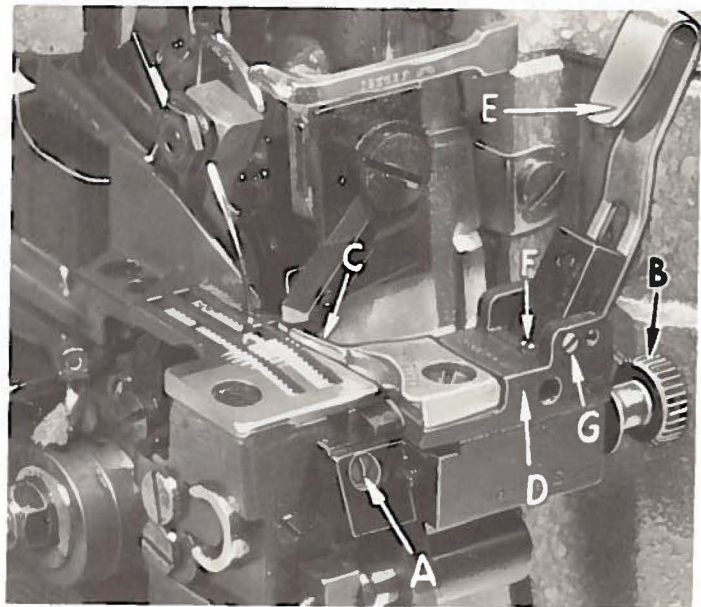

Fig. 15
Assemble the hemming guide support bracket onto the lower knife support bracket by means of screw (A, Fig. 15). With the knurled adjusting screw (B), set the edge guide (C) so that the left side of its tip is even with and parallel to the right side of the right feed slot in the throat plate.
When the edge guide tip is in this position, the front or leading edge should be slightly to the right of parallel. This adjustment can be made by positioning the stop screw located towards the front of the hinge block and edge guide support bracket (D, Fig. 15).
Under normal conditions, the edge guide is spring pressed to compensate for the differences in material thickness. For example, as in going over seams. The amount of movement and pressure applied to the edge guide tip is controlled by adjusting the screw which presses against the spring located in the hinge block and edge guide support bracket (D, Fig. 15). Removing this spring and turning the screw all the way out against the edge guide prevents movement of the edge guide.
Adjust the edge guide (C, Fig. 15) by turning the knurled adjusting screw (B) so that the stitches are located in the folded edge, yet do not show on the face of the fabric. Adjust the overhanging guide (E) so that the space between its guiding edge and the edge guide corresponds with the thickness of the material to be hemmed. Adjust the stop screw (F) for the overhanging guide so that the tip of the overhanging guide is located at the center of the edge guide vertically. If desired, the overhanging guide can be locked into position by tightening the locking screw (G) located in the hinge block and edge guide support bracket (D).